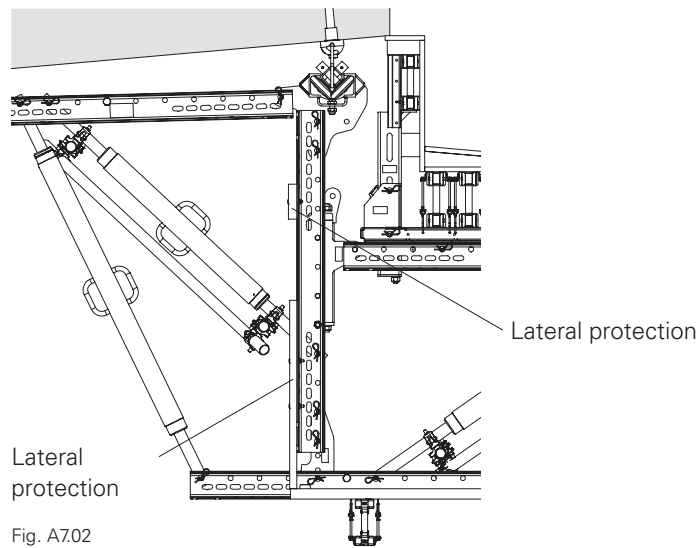

Fig. A7.02
- Lateral protection must also be mounted at the rear section of the control unit. (Fig. A7.02)